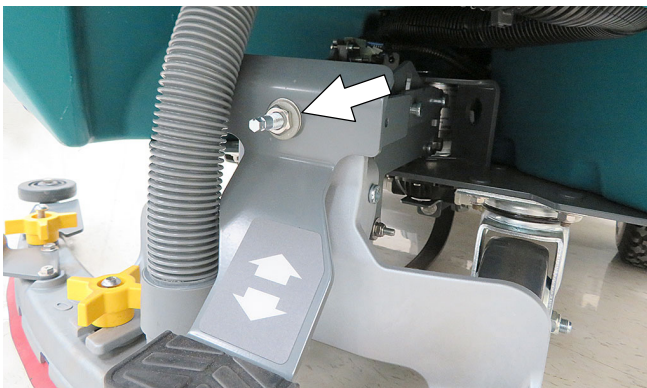

FIG. 10
6. To readjust blade pitch, loosen locking nut on adjustment shaft and rotate shaft counterclockwise to raise squeegee tips or clockwise to lower squeegee tips (Figure 10). 7mm and 17mm wrench required.